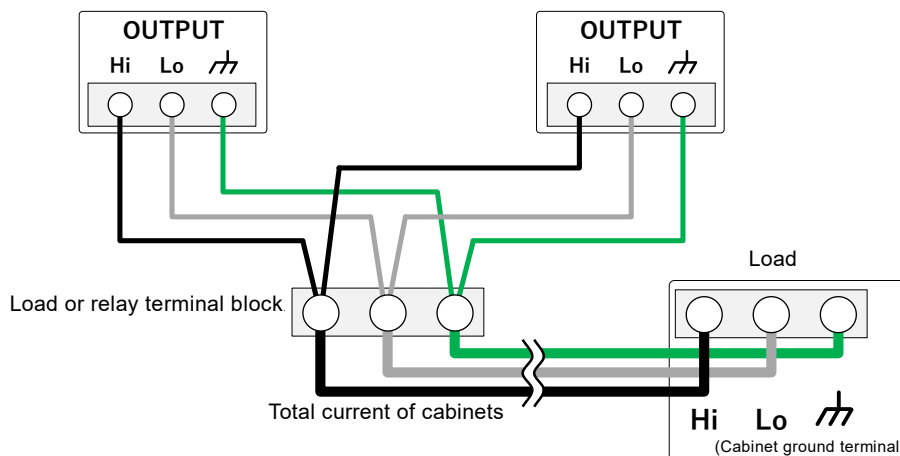
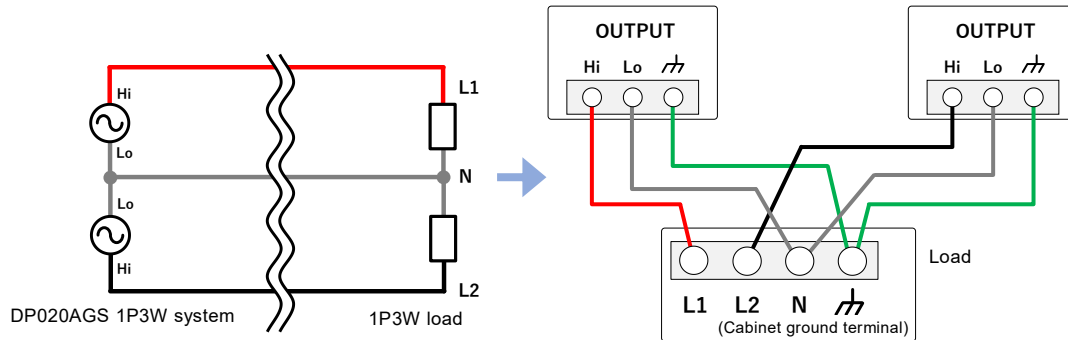
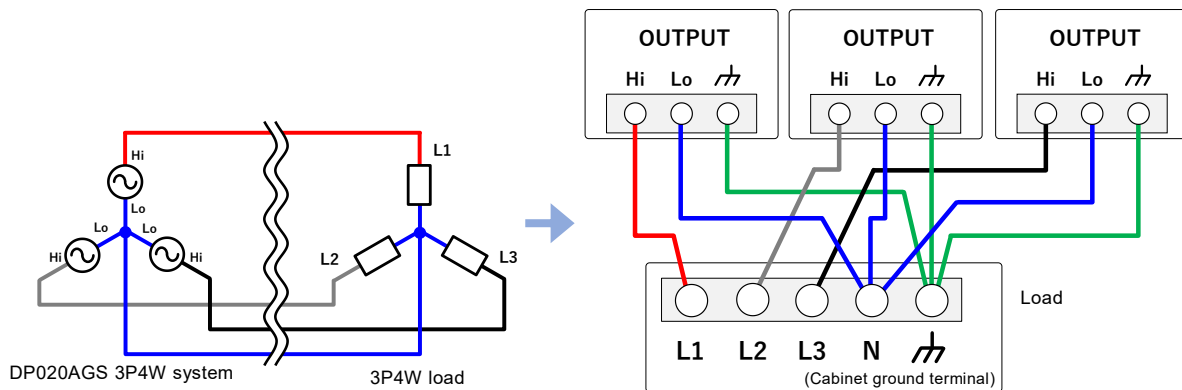

Figure 2-6 Connecting Outputs of Two Units Using 1P2W
Figure 2-7 1P3W System Connection
Figure 2-8 3P4W Connection of 3P4W System
Connect a voltage line to the output Hi terminal of each unit. The neutral line can be connected to the Lo terminal with two methods described below. The neutral line can be grounded. If the load has a ground terminal, connect it to the chassis terminal of each output terminal. Be sure to tighten the screws firmly. When boosting up each phase, each of the OUTPUT terminals in *Figure 2-7*, *Figure 2-8*, and *Figure 2-9* will be an output terminal with a booster connected. For details on booster connections, see *Figure 2-6*.
3. Connect the output terminal to the load with a cable while referring to *Figure 2-6*, *Figure 2-7*, *Figure 2-8*, and *Figure 2-9*. Connect a voltage line to the Hi terminal of the output terminal of each unit.